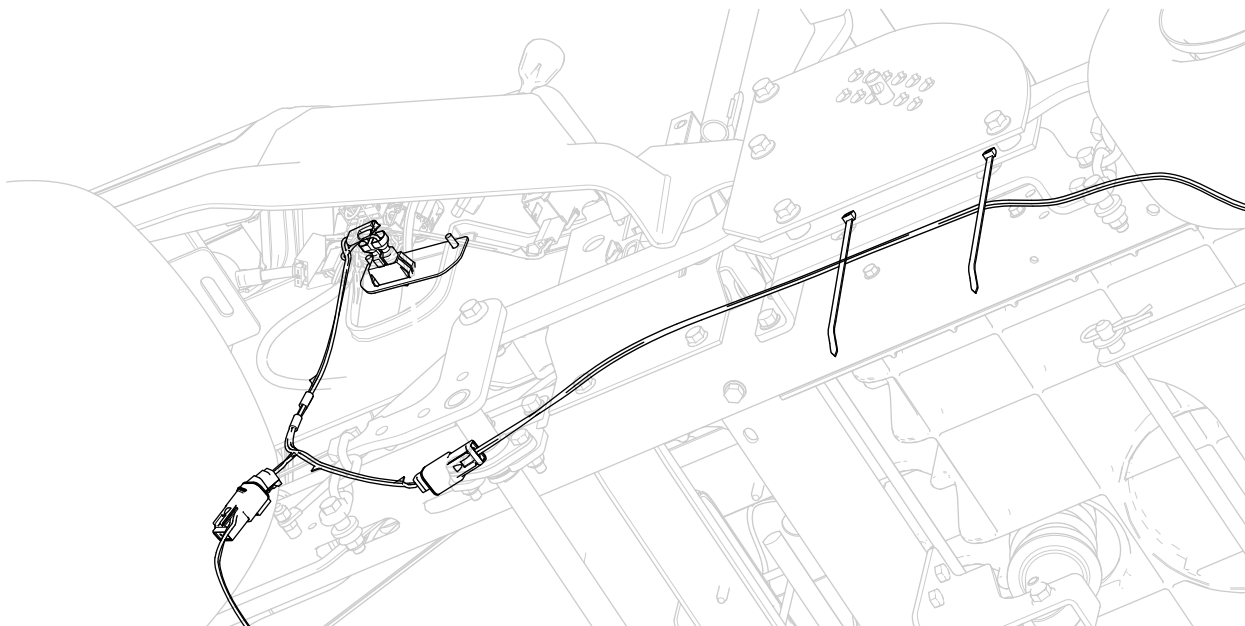

Figure 13
8. Route the wire harness between the right box control plate and the right deck-lift lever (Figure 13).
9. Connect the front light wire-harness lead to the connector on the wire harness for the light kit (Figure 13).